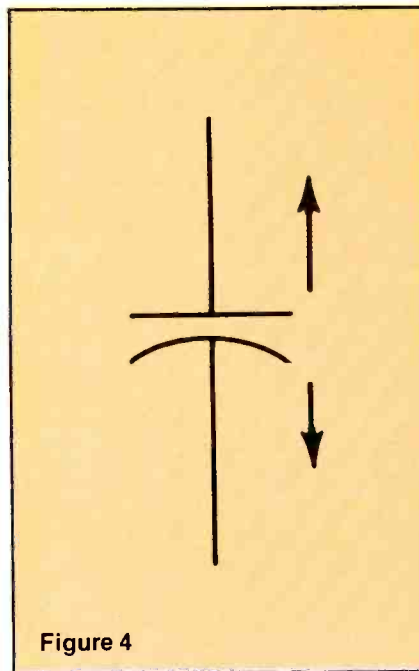

Figure 4
4. The capacitor in Figure 4 is charged, and then the plates are moved farther apart. The result is that the voltage across the capacitor